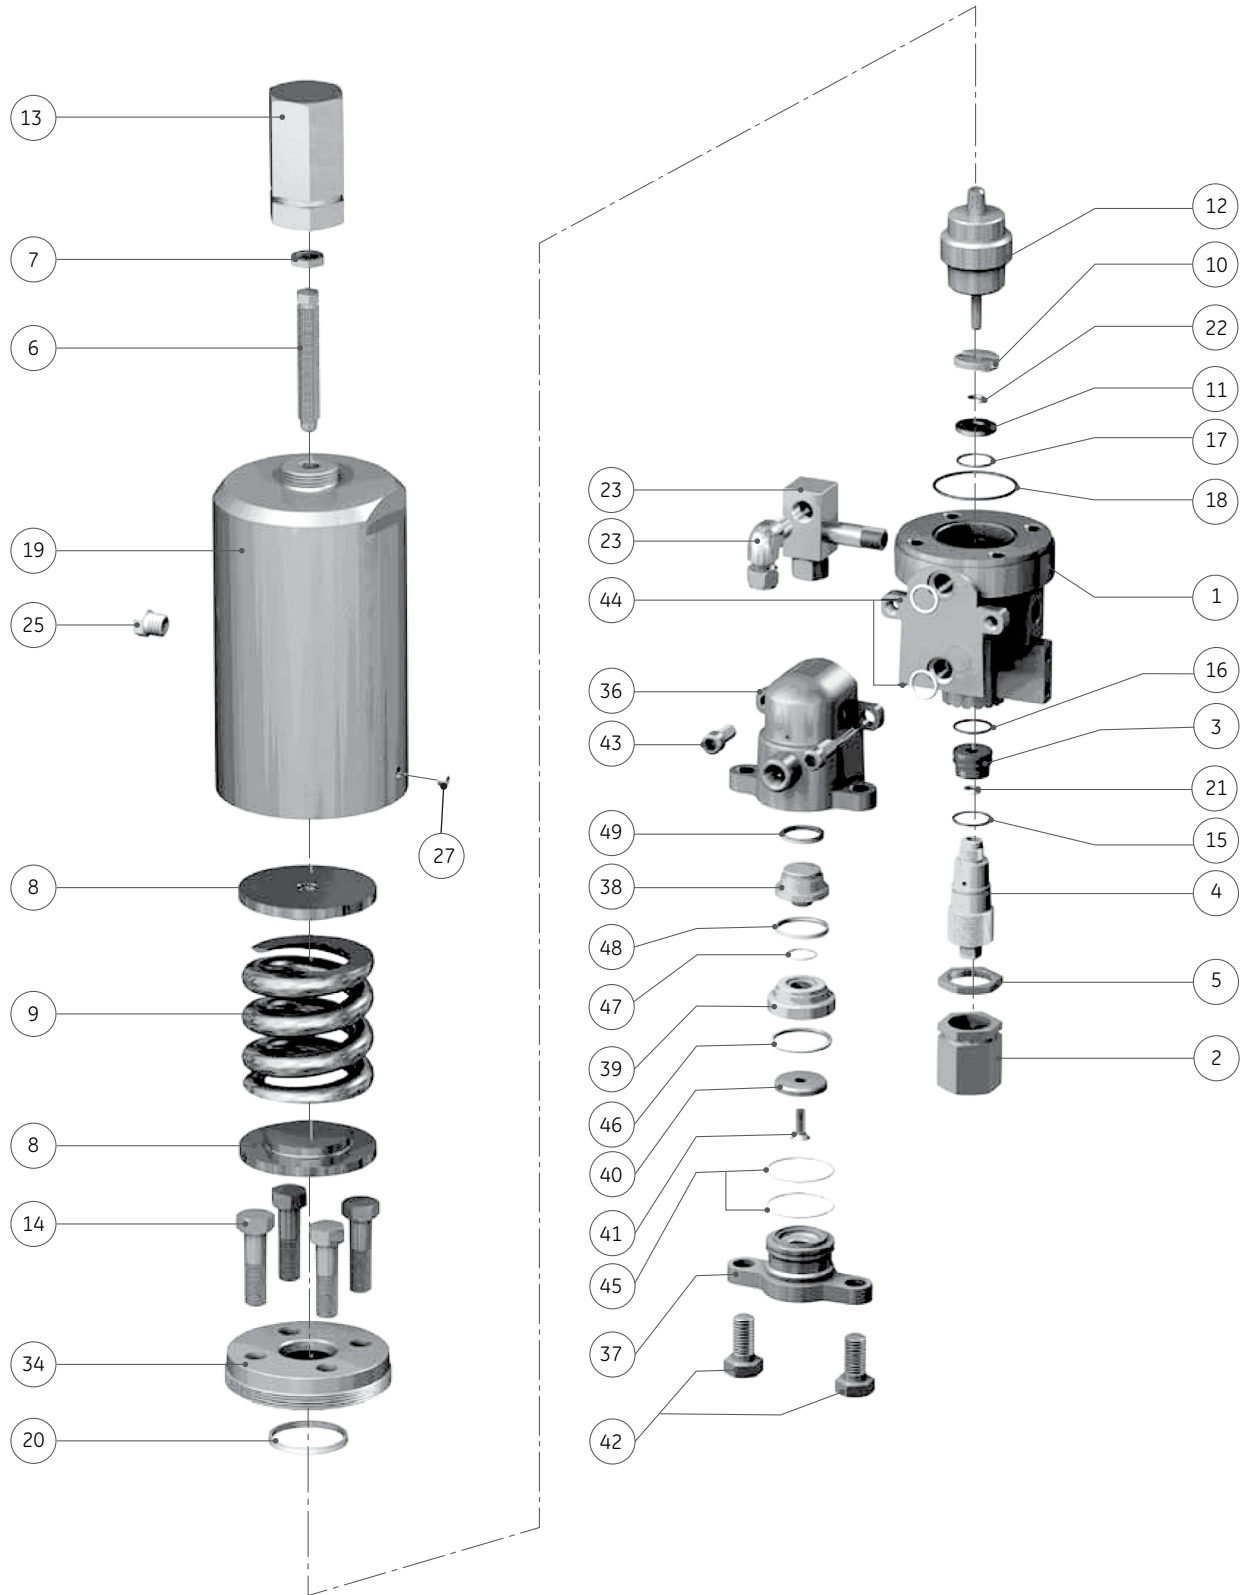

Figure 53: 39MV07 Disassembly
3. If a lifting lever is installed, also use Figure 52 to remove the Lifting Lever assembly. Then return to Figure 53 to continue disassembly.